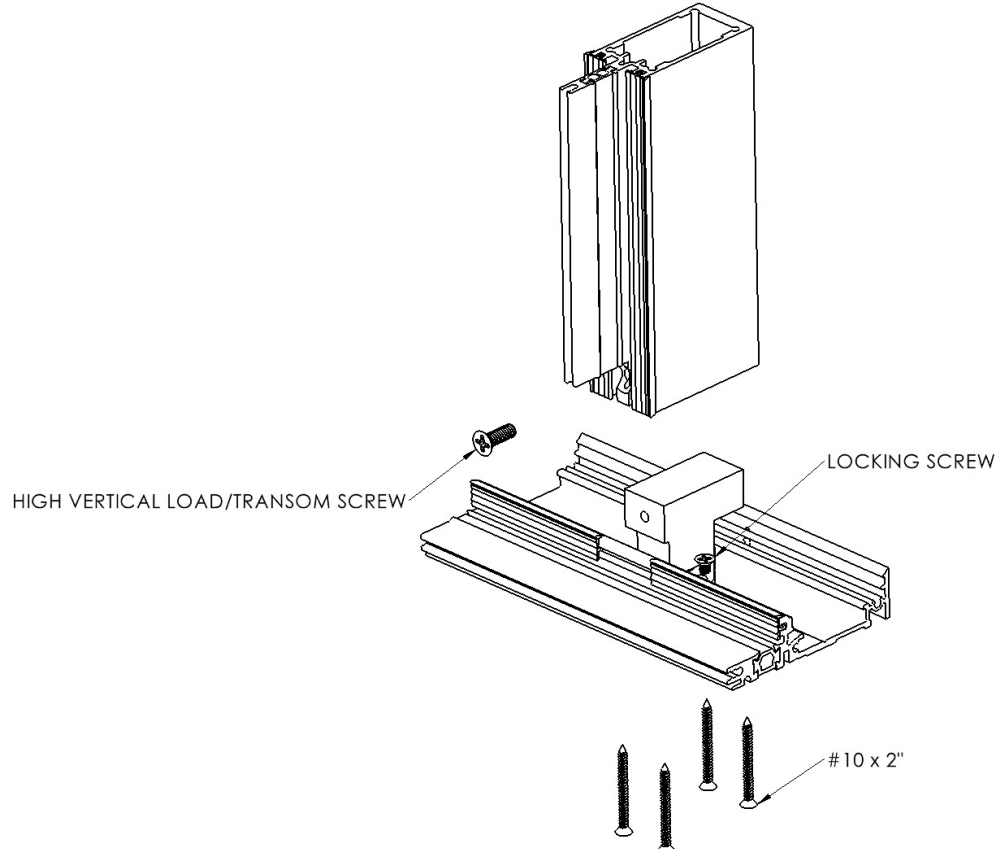

Figure 13
5. Slip the Vertical T-bars over each wind load bracket, and secure in location using (4) #10 x 2" screws through the pre-drilled holes. Repeat this process for the head. For applications where a large vertical load will be required, such as transom over a patio door, the high vertical load screw must also be used to prevent sag or separation of the perimeter frame and T-bar. (See Figure 13).